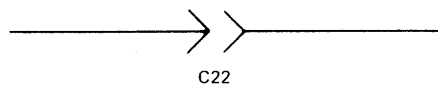

Fig. 4 - Wire Connector Code
- Wire connector identification code is shown in Figure 4. The key for the connector codes is located at the bottom of the wiring diagram.